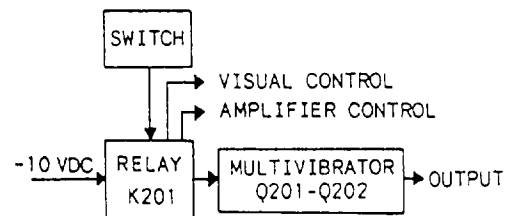

Figure 7-12.—Block diagram of the chemical alarm module.
**CHEMICAL ALARM.**— The chemical alarm is a transistorized oscillator circuit that generates a continuous 1000-Hz signal as long as power is applied to the circuit. This circuit consists of a square wave multi vibrator. Figure 7-12 is a block diagram of a chemical alarm module. Operation of the chemical alarm contact maker will supply -10 volts dc to the circuit through relay K201. Relay K201 will also apply control voltage to operate the visual signal circuit and the amplifier channel.